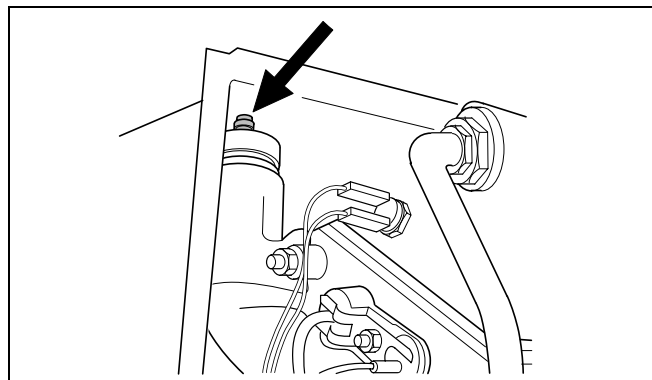

fig. 25 Automatic air release valve
- Open the protective cap on the automatic air release valve one full turn (fig. 25).